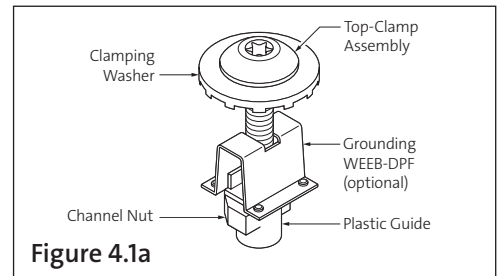
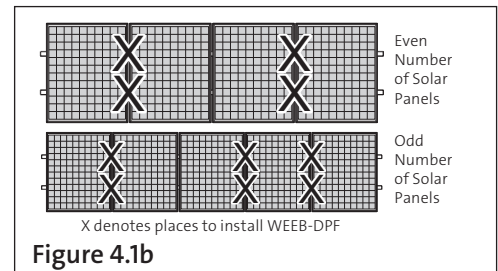

Figure 4.1a
Figure 4.1b
- 4.1. If top hat style WEEB DPF (part # EC0534) is to be used, pre-assemble into Top-Clamp Assembly ②, as shown in **Figure 4.1a**. Note that not every Top-Clamp Assembly needs a WEEB. Follow the WEEB layout diagrams in **Figure 4.1b**.